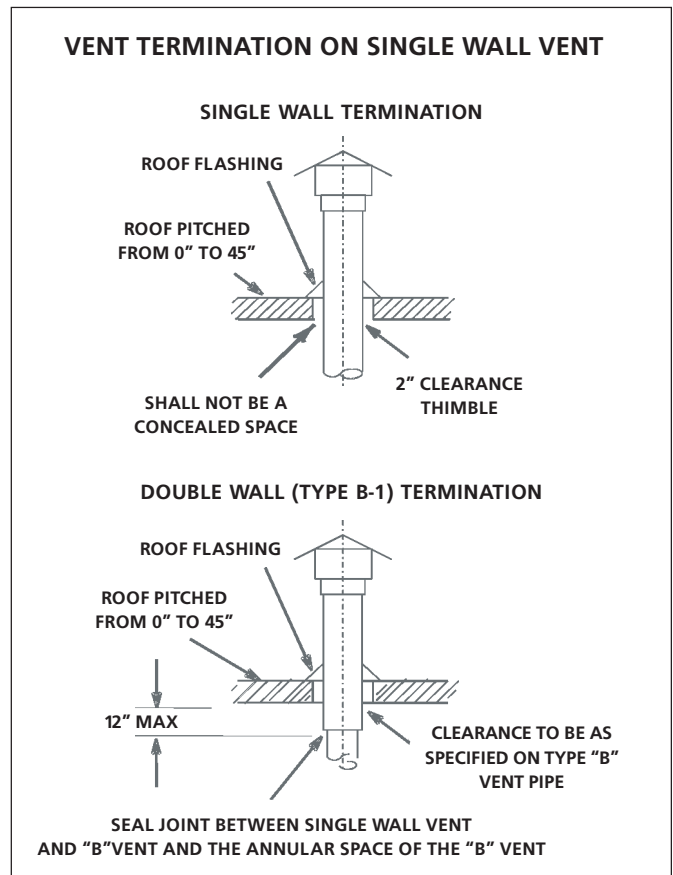
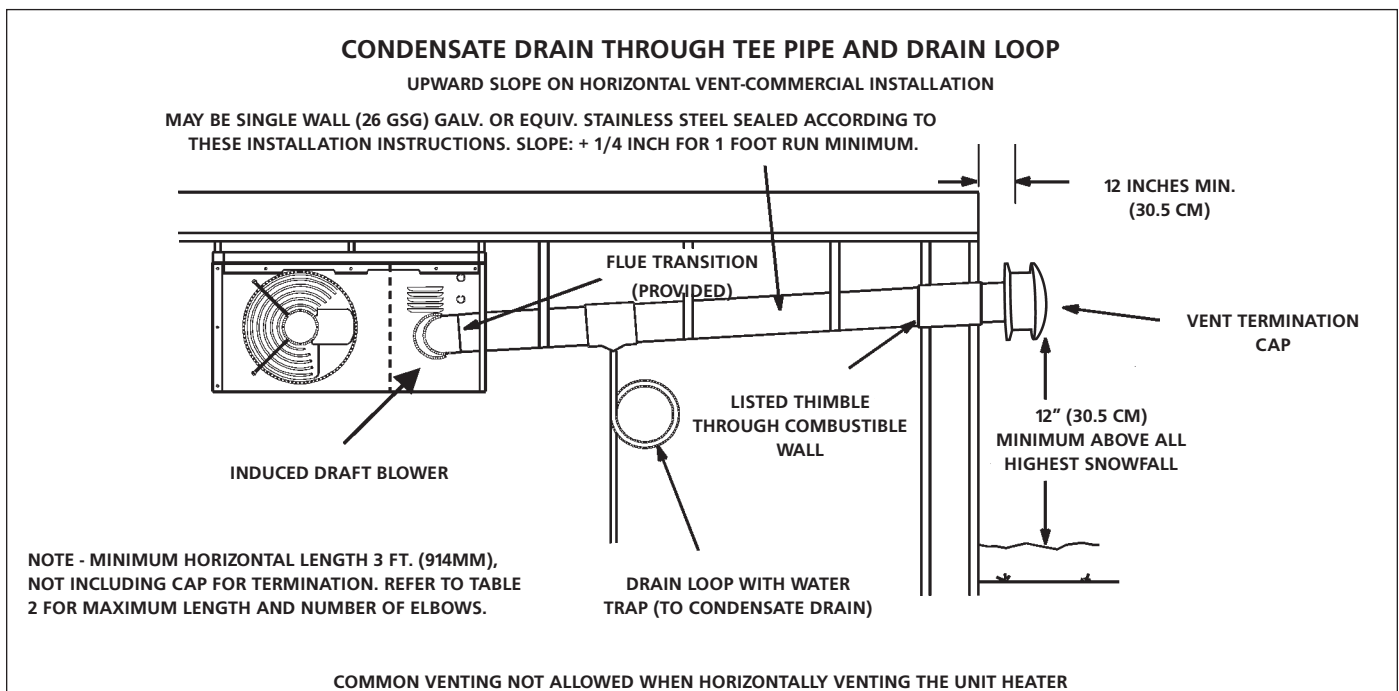

FIGURE 2
FIGURE 3
- MHU/HSU unit heaters are to be used with NFPA- or ANSI-approved chimneys, U.L. listed type B-1 gas vents, single wall metal pipe, or listed chimney lining system for gas venting where applicable, as well as the modifications and limitations listed in **figure 2**. Seal single wall vent material according to the section **A - General Recommendations and Requirements**.
- When termination is routed through an exterior combustible wall the vent must be supported using a listed clearance thimble. Where local authorities permit, a single section of type B-1 vent pipe may be used as an alternative to the thimble. When using a type B-1 vent termination use the clearances specified by the vent manufacturer. Seal the connection between the single wall and double wall pipes and the annular space of the double wall pipe as shown in figure 2. Inside edge of vent termination tee must be at least 12 inches from outside wall as shown in **figure 3**.
- Horizontal commercial installations are for buildings which are not attached to living spaces. The vent may be single wall vent material installed according to the sections **Venting A - General Recommendations and Requirements** and **C - Horizontal Venting General** and **D - Horizontal Venting - Commercial**. Refer to **figure 3**.